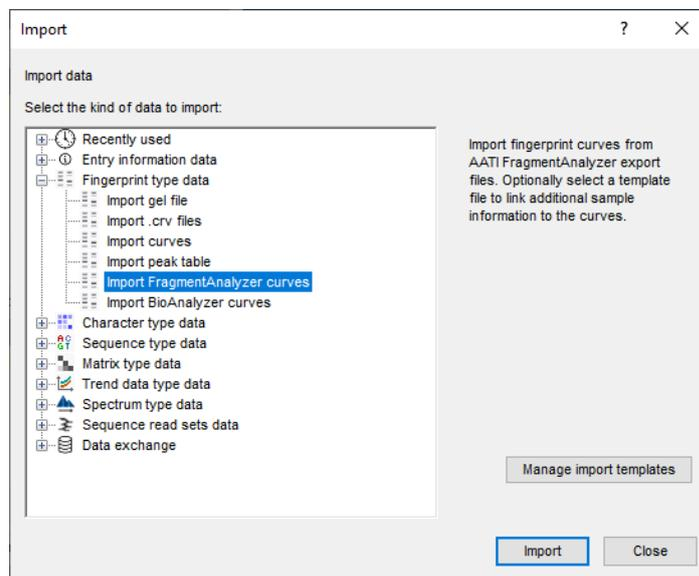

Figure 7: The *Import* dialog box.
2. Select **Import FragmentAnalyzer curves** under **Fingerprint type data** (see Figure 7) and press **<Import>** button to start with the import of the data.